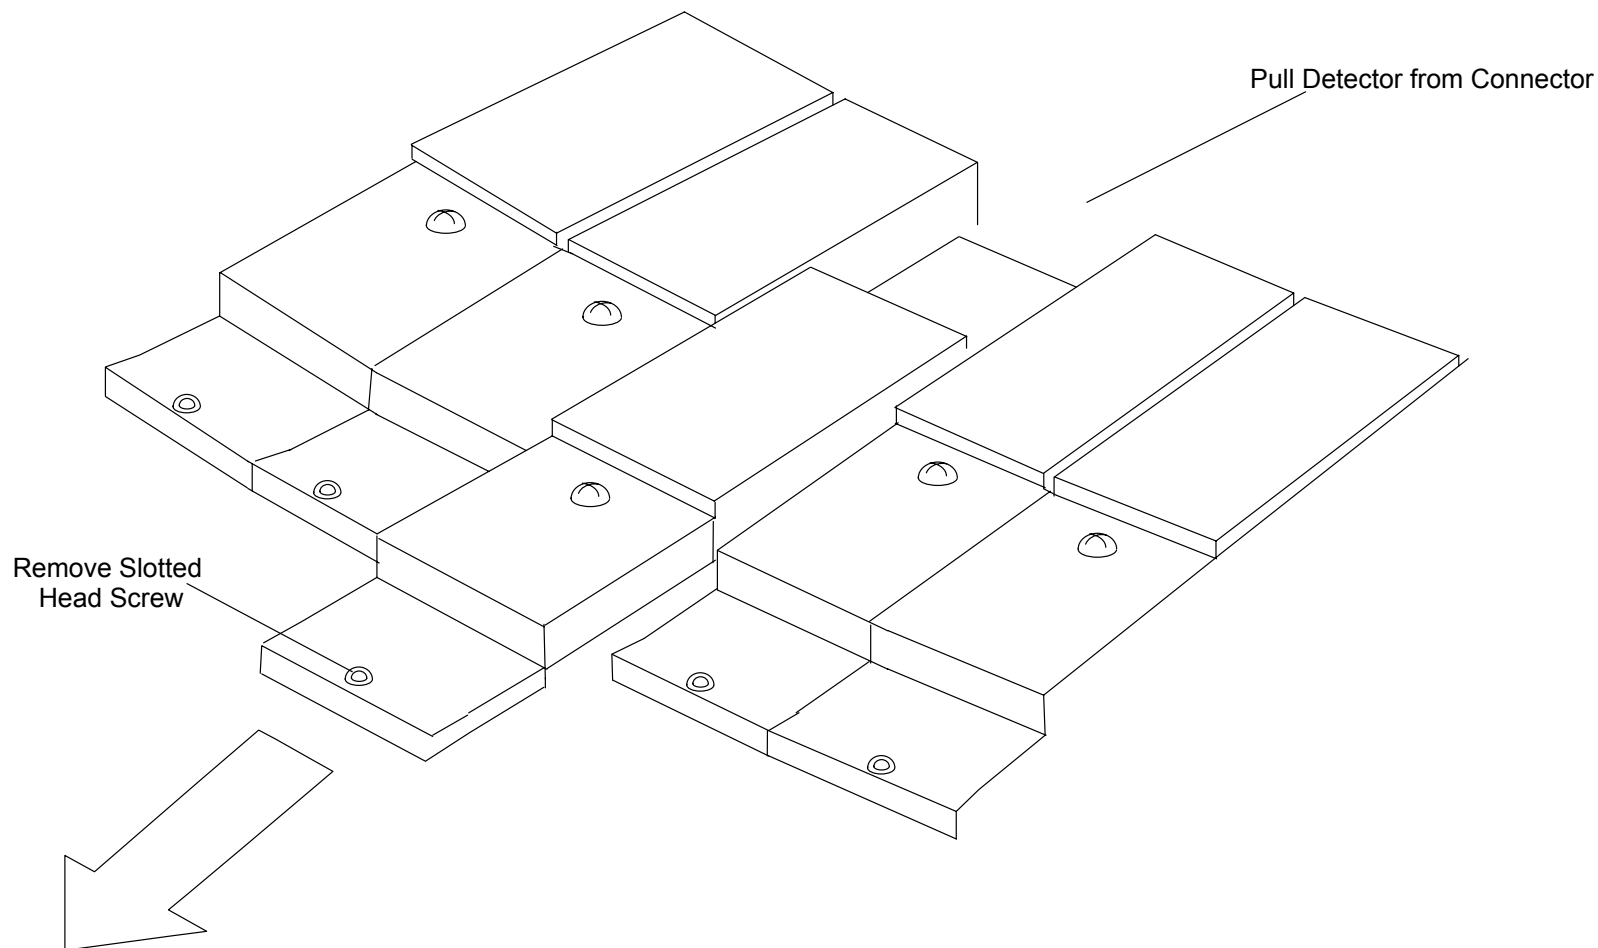

FIGURE 315 Detector Module Removal
4. Remove the slotted head screw from the front of the detector module being removed. You may have to rotate the gantry (ccw) a bit to gain better access to the head screws. Firmly grasp the front edge of the Detector Module and pull it straight out the front of the Gantry. See Figure 315.
14. Replace and secure the Detector Modules by inserting the new detectors into their respective location. The detector should go in opposite of that shown in Figure 315.